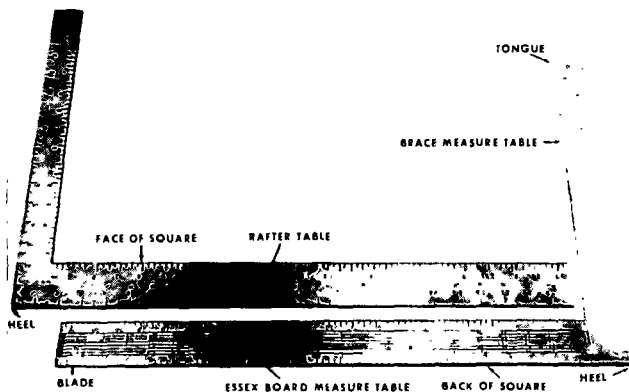

Figure 23. Carpenter's square.
b. Carpenter's Square. The carpenter's square (fig. 23) has two arms set at exact right angles with one another. The larger, which is 24 inches long, is called the *blade*. The smaller arm, called the *tongue*, is 16 inches long. In addition to the inch and fractional graduation, there are three tables on the square: the essex board measure, the brace measure table, and the rafter table. Figure
① HANDLE
② BIT